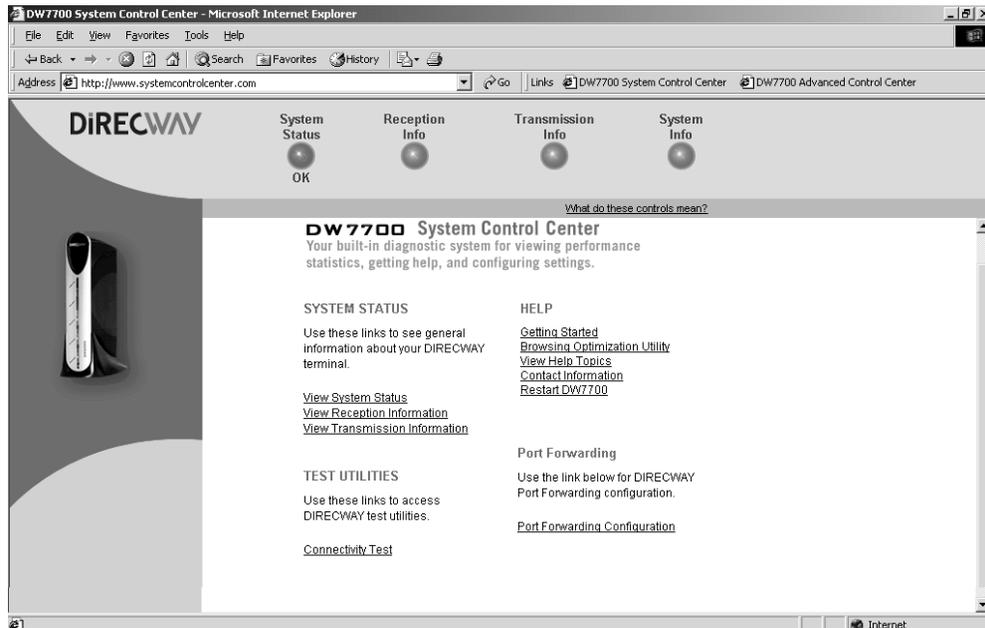

Figure 6: Accessing the System Control Center
3. Press **ENTER**. The System Control Center home page appears. A sample home page is shown in Figure 6.